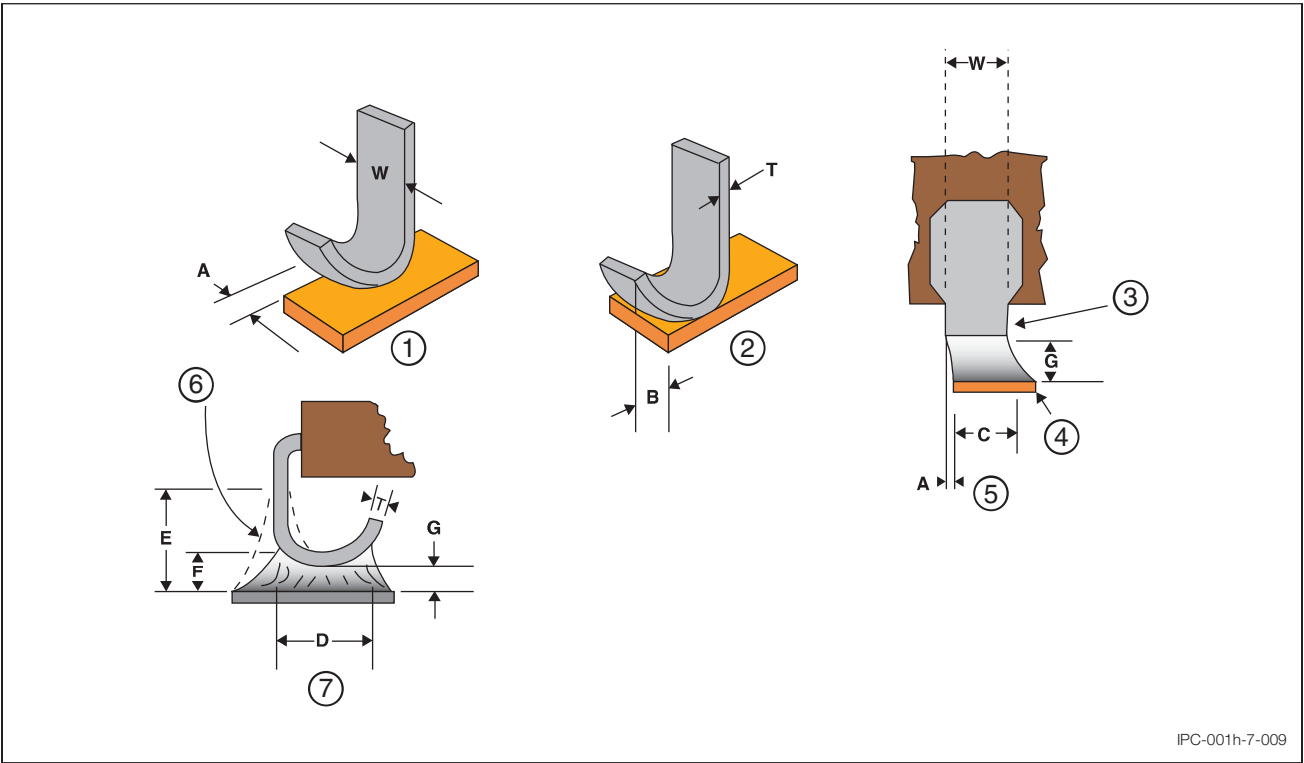

Figure 7-9 J Leads
7.5.9 J Lead Terminations Connections formed to leads having a “J” shape at the connection site **shall [D1D2D3]** meet the dimensional and fillet requirements of Table 7-9, see Figure 7-9.